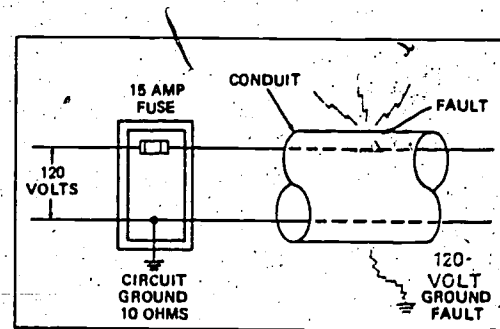

Fig. 7-4. Circuit grounded - conduit not grounded.
7.25 **CIRCUIT GROUNDING** can be more easily understood by looking at low voltage secondary circuits found in most industrial plants. Such a circuit, 120-volts, 15-amps, with a 10-ohm circuit ground and ungrounded conduit is illustrated by the schematic in Fig. 7-4. When a short circuit occurs because of insulation failure, the ungrounded conduit becomes energized. The conduit now has the same potential (120 volts) as the ungrounded circuit conductor inside it, but no fault current can flow because the conduit is not grounded and the fuse doesn't blow. But anyone touching the conduit and ground will experience a shock which could be fatal.